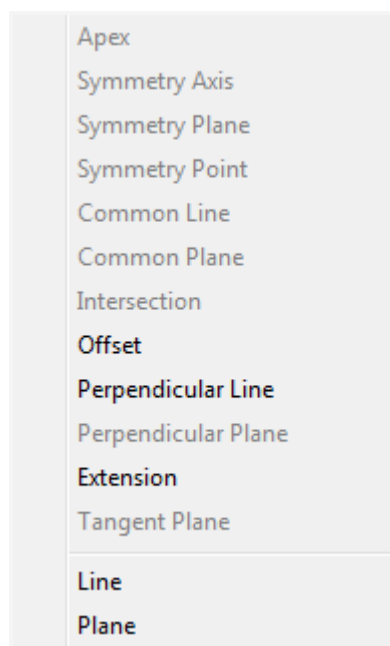

Figure 5. Supplemental Geometry sub menu items
- **Supplemental Geometry** - to create supplemental geometry elements. This menu contains a sub menu, where available supplemental geometry elements are listed: **Apex**, **Symmetry Axis**, **Symmetry Plane**, **Symmetry Point**, **Common Line**, **Common Plane**, **Intersection**, **Offset**, **Perpendicular Line**, **Perpendicular Plane**, **Extension**, **Tangent Plane**, **Line** and **Plane** (see Figure 5). **Note.** There are enabled only those menu items, which represent functions available for the current selection.